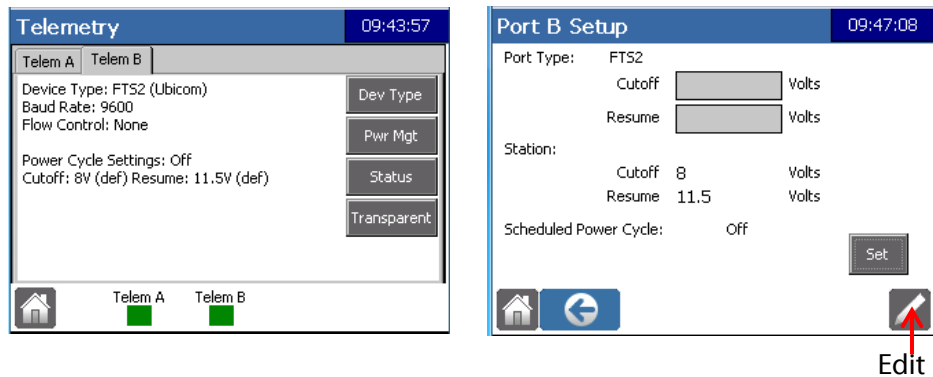
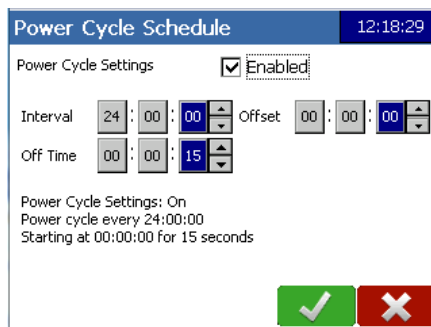

Figure 3-3: Power Management
Figure 3-4: Enable Power Cycling
**Scheduled Power Cycle:** You can set a schedule for power cycling the Ubicom. To do so, press the Set button (see Figure 3-3 ), then check the **Enabled** box. The default settings (shown in Figure 3-4) can be customized as desired. Select **OK** when done.